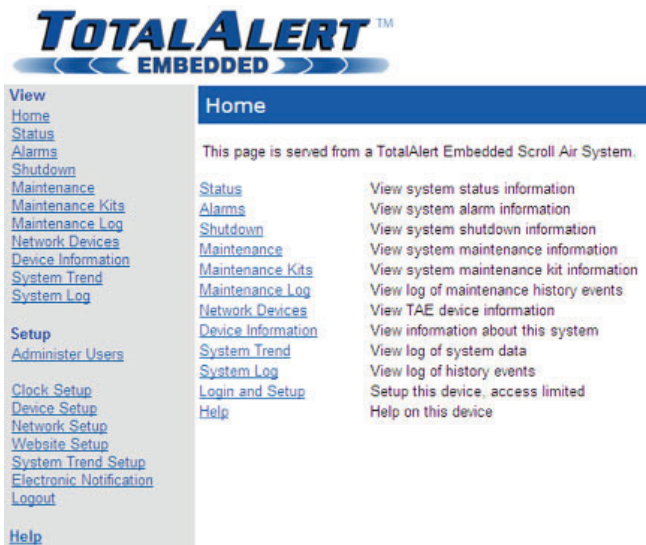

Figure C.31 Setup Menu
4. The left sidebar will now contain the setup links (Figure C.31).